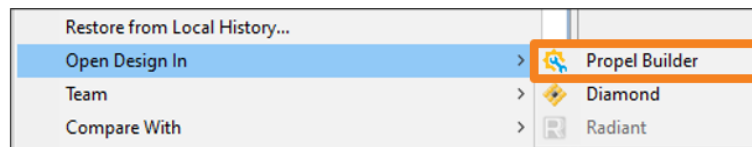

Figure 3.15. Project Explorer Pop-up Menu
- Right-click the SoC project from **Project Explorer**. Choose **Open Design In** > **Propel Builder** from the pop-up menu (Figure 3.15).